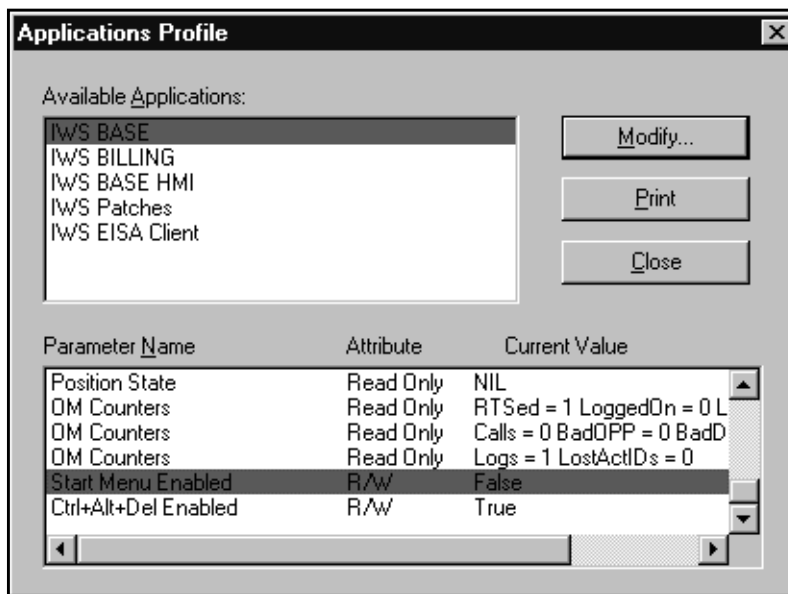

FIGURE 21. Applications Profile Window
- a. Use the down arrow key to highlight the name IWS BASE in the Available Applications box. An example window is shown in Figure 21.
With the parameter Start Menu Enabled set to False as shown in Figure 21, the Ctrl+Esc command at the target position cannot be used to open the Windows Start menu from the IWS logo window. And Alt+Tab cannot be used at the target position to cycle from the IWS logo window to another currently running application.